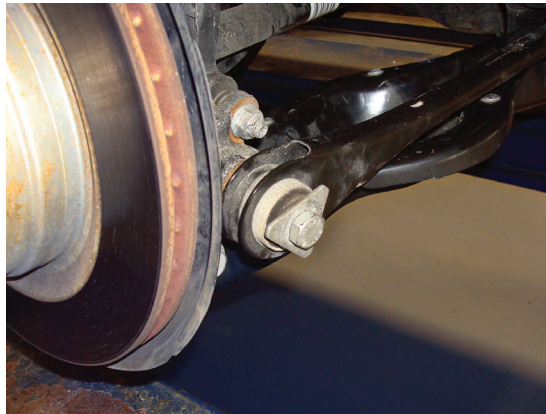

fig. D.12
6. Unthread the outer toe link bolt and remove (Fig. D.12).